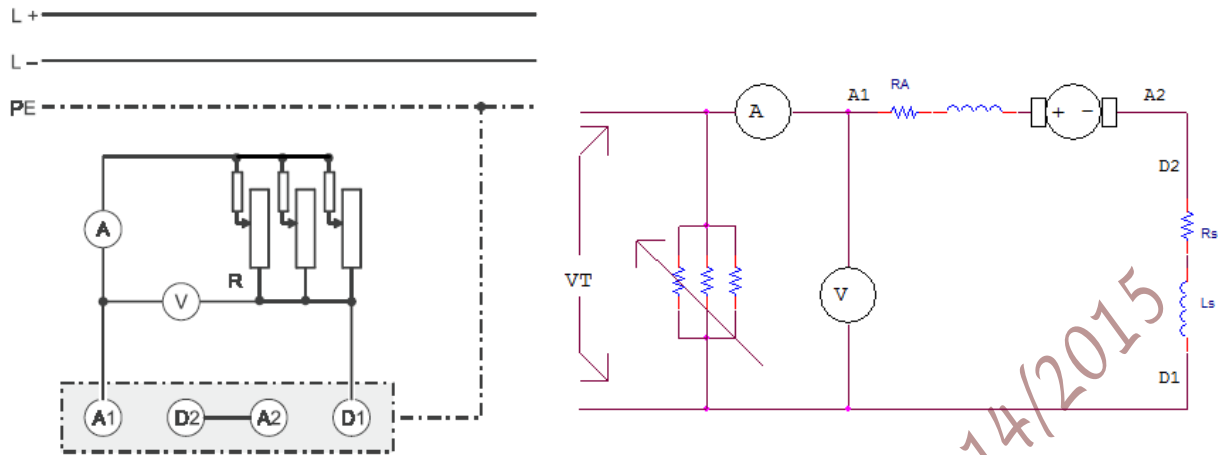

Figure 10.6: Circuit for the series wound machine as a generator
1. Set up the circuit as shown in Figure 10.6
17. Change the circuit connections to match Figure 10.6